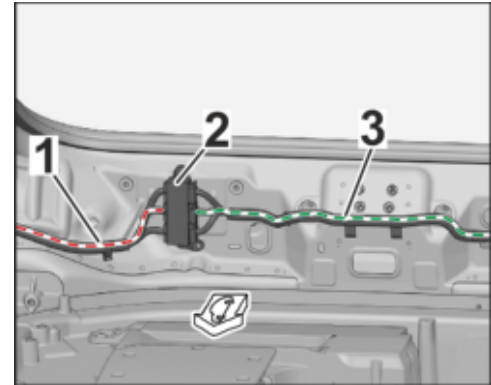

Figure 9 (similar)
2.1.3 Rear cross-over connection point area (see also wiring diagram 11 – Rear cross-over) ⇒ *Figure 9 (similar)*
- Route branch for left rear light / tail light in rear lid to the rear cross-over connection point. ⇒ *Figure 9 (similar)*
- Insert VT / WH 0.52 line with socket contact into chamber 12. ⇒ *Figure 9 (similar) -1-*